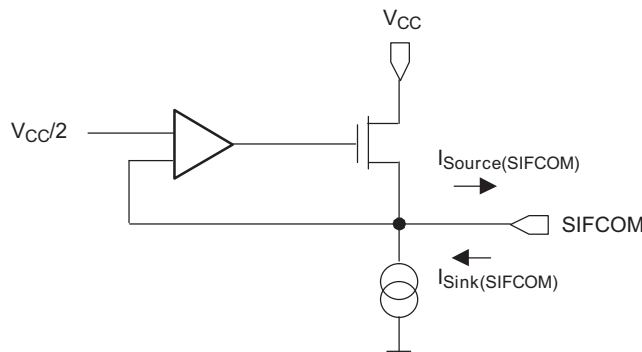

Figure 20. P6.x/SIFCHx Timing, SIFCHx Function Selected
| $I_{source}(SIFCOM)$ | SIFCOM source current ⁽¹⁾ (see Figure 20) | | 2.2 V | -500 | | | μA |
- (1) The sink and source currents are a function of the voltage at the pin SIFCOM. The maximum currents are reached if SIFCOM is shorted to GND or V_{CC} . Due to the topology of the output section (see Figure 20) the $V_{CC}/2$ generator can source relatively large currents but can sink only small currents.